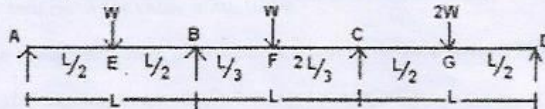

Fig. 3
- (b) Determine the collapse load 'W' for a three span continuous beam of constant plastic moment ' M_p ' loaded as shown in figure 3. (15)